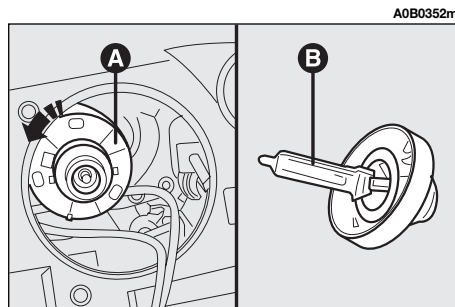

fig. 26
- Turn ring (**A-fig. 26**) counterclockwise and remove it.
- Remove the Xenon lamp (**B-fig. 26**).